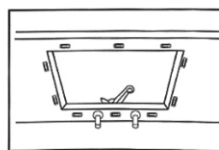

FIGURE 3
5. Locate the drill holes on the underside of the countertop, approximately 1" from edge of the sink to be installed. Holes should be evenly spaced approximately 6" to 8" apart starting from every corner as shown in (FIGURE 3). It is recommended to install a faucet at this point before installing the sink.